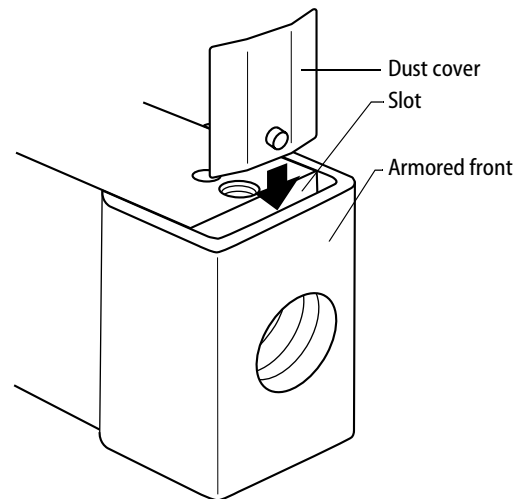

Figure 1— Inserting the dust cover
- 1 Insert the dust cover into the slot on the top flat surface of the trailer pin lock. See Figure 1.